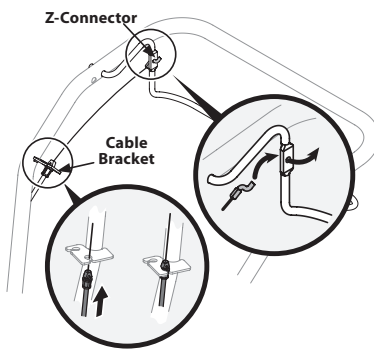

Figure 6
2. Pull the forward clutch cable with the black end fitting up through the bottom hole of the cable bracket and push the cable connector up through the hole until the groove in the connector snaps into place. See Figure 6.
3. Place the Z-connector into the hole in the forward clutch bail from the outside of the bail to the inside. See Figure 6.